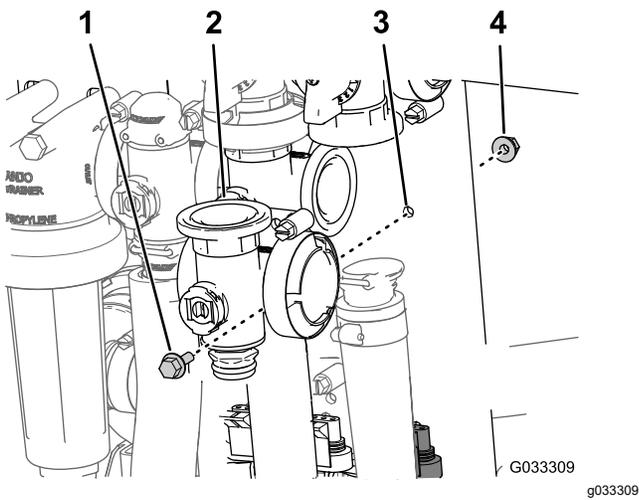

Figure 73
3. Remove the flanged-head bolt and flanged locknut that secures the master-section valve to the valve mount and remove the valve manifold from the machine (Figure 73).